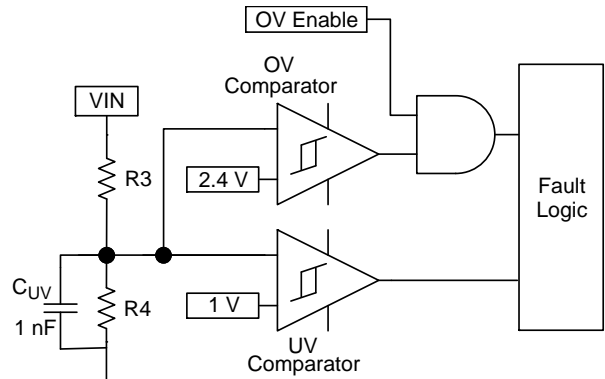

Figure 37. UV/OV Resistor Divider from the Input Line
The NCP1032 incorporates V_{in} input line under voltage (UV) and over voltage (OV) shutdown circuits. If the UV/OV pin is set below 1.0 V or above 2.4 V thresholds the power switch will stop switching and the part will use DSS until the problem is corrected. The comparators incorporate typical voltage hysteresis of 70 mV (UV) and 158 mV (OV) to prevent noise from inadvertently triggering the shutdown circuit. The UV/OV sense pin can be biased using an external resistor divider from the input line as shown in Figure 37. The UV/OV pin should be bypassed using a 1 nF capacitor to prevent triggering the UV/OV circuit during normal switching operation.